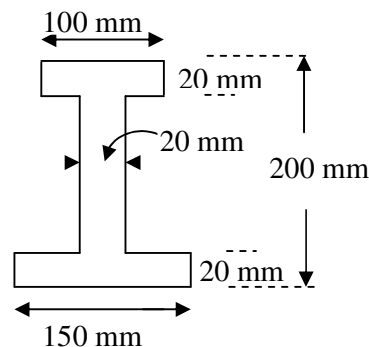

Figure 4
8. The un symmetric I section shown in Figure 4 is the cross section of a beam, which is subjected to a shear force of 60 kN. Draw the shear stress variation diagram across the depth.